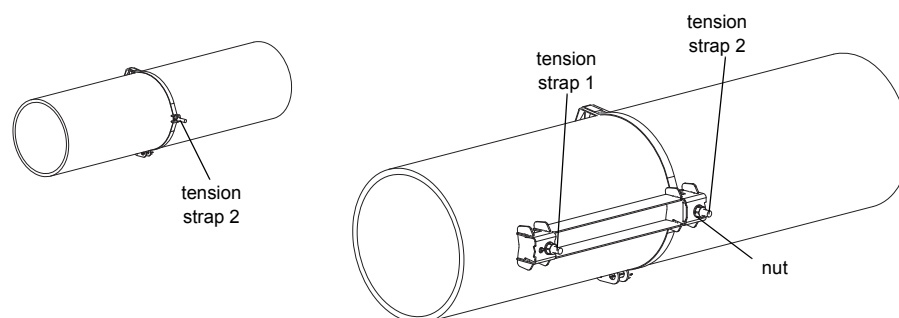

Fig. 9.19: Rail, mounted on one side of the pipe
- Screw the rail to tension strap clamp 2 (see Fig. 9.19).